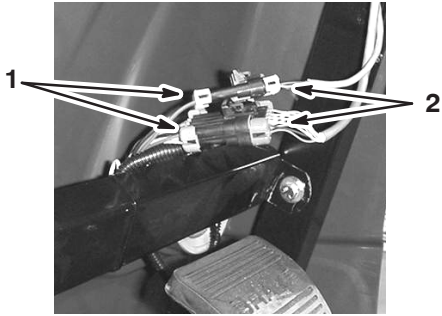

Figure 5
7. Connect the Spray Pro wire connectors to the wire connectors located under the dash (Fig. 5).